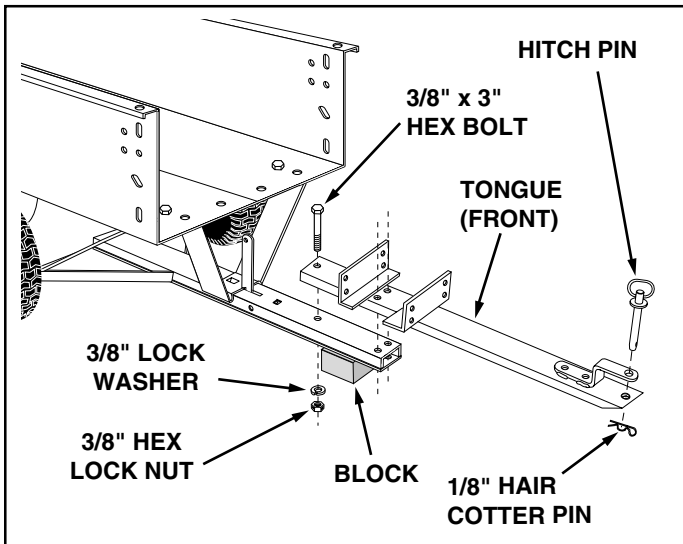

FIGURE 8
17. Assemble the front tongue on top of the rear tongue using three 3/8" x 3" hex bolts, 3/8" lock washers and 3/8" hex lock nuts. See figure 8.
18. Assemble the hitch pin to the hitch bracket and tongue, securing it with the 1/8" hair cotter pin. See figure 8.